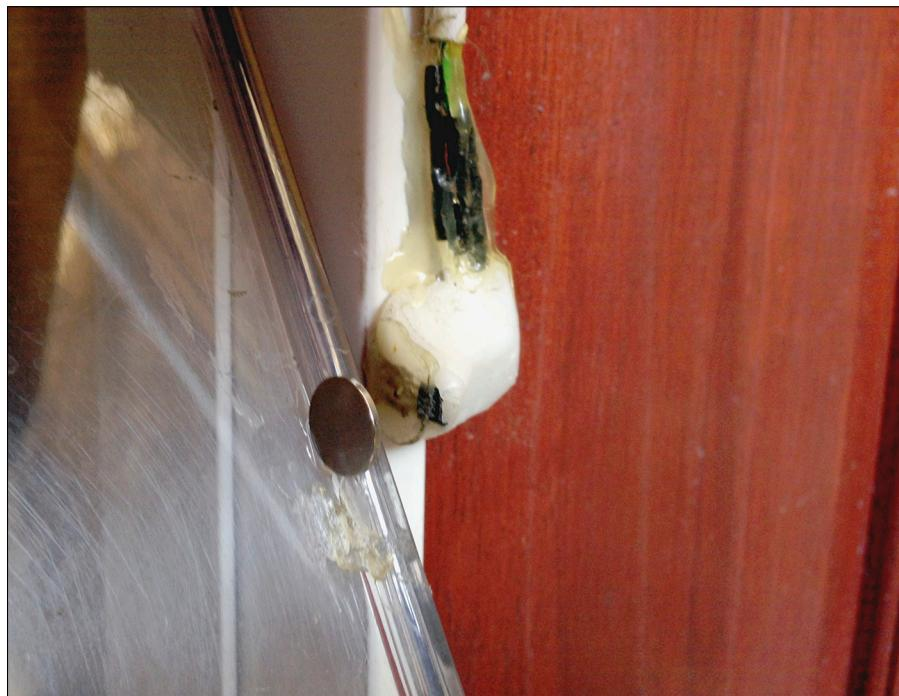

Figure 11-10:
3. Glue the plastic block to the pet door frame, as in Figure 11-10.
Swing the door partway until it is in front of one of the sensors. Make sure that the south facing pole that you marked earlier points toward the sensors. Use a dab of glue to attach the magnet to the door. When you're done, it should look like Figure 11-10.